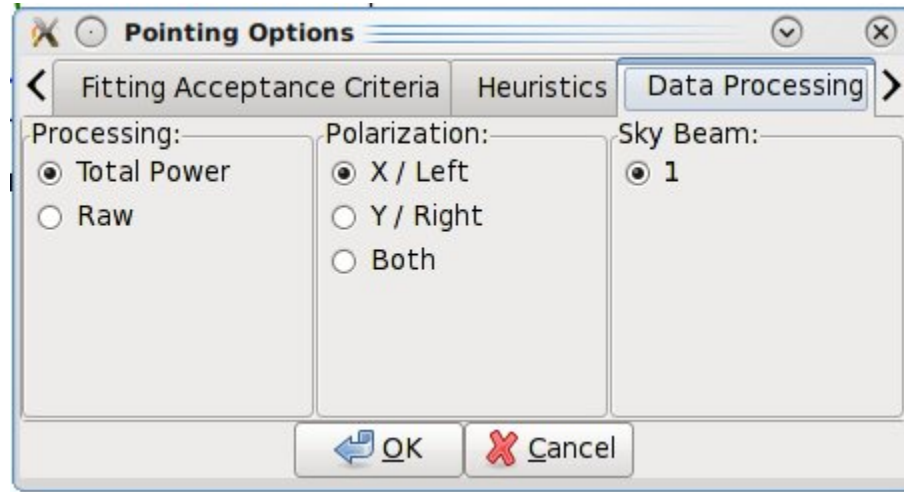

Figure 4.4: The pop-up menu to change the polarization and calibration used in pointing and focus fitting.
- Step 3.** Make new data processing selections in the Data Processing Tab of the pop-up window (see Figure 4.4).